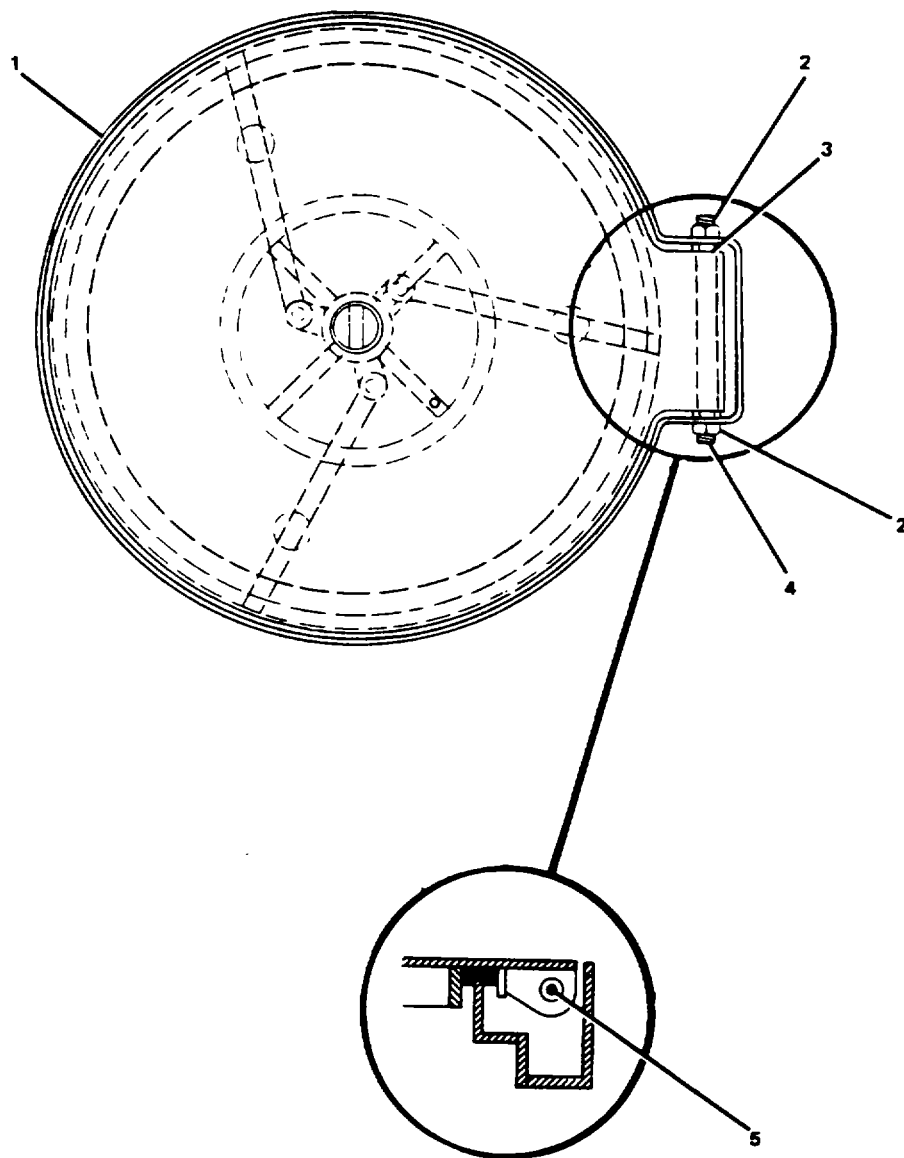

Figure 2-39. Replace Watertight Scuttle. Quick Action (Flush).
- a. Open scuttle (1, Figure 2-39).
- b. Remove couplings (2), washers (3), and threaded plug (4) from hinge pad.
- c. Remove cylindrical hinge pin (5) from hinge pad.
- d. Remove scuttle (1) from closure.
- b. Remove cotter pins (14) from cylindrical pins (5), then remove cylindrical pins.
- c. Loosen setscrews (18) and remove dog arms (21) and guides (19) from scuttle.
- d. Remove hex steel bushings (20) and springs(4) from scuttle.
- e. Remove spider (17) and shim (9) from scuttle.
- f. Remove delrin bushings (6) and preformed packing (8).
- g. Remove dog stud (7) from scuttle.
- h. Remove gasket (12) from scuttle.
- a. Place scuttle (1, Figure 2-39) in position on closure.
- b. Insert cylindrical hinge pin (5) in hinge pad.